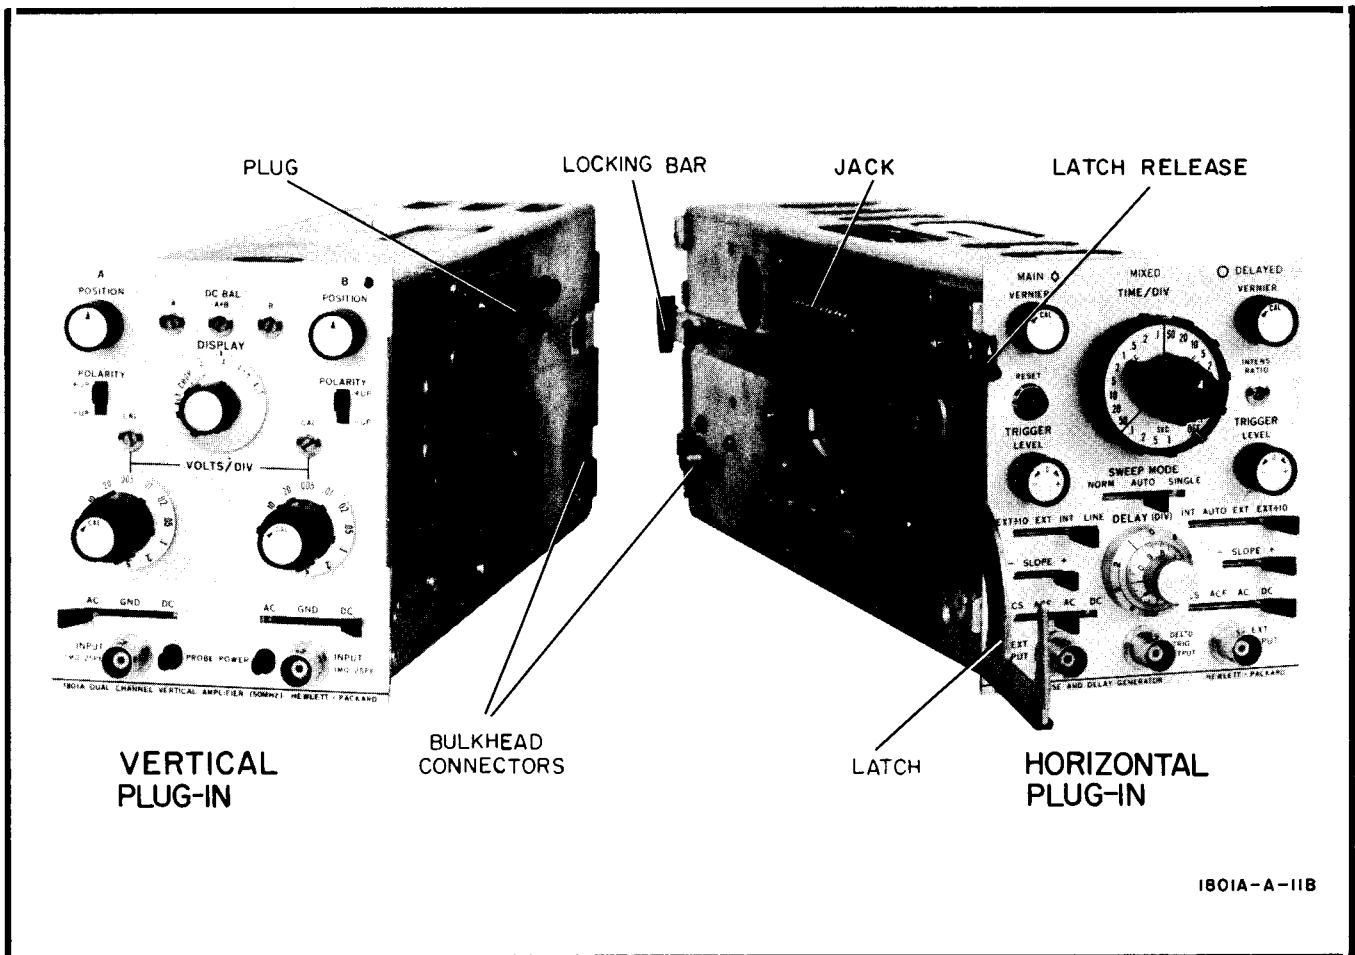

Figure 2-1. Plug-In Mating
- a. Move locking bar to rear (see Figure 2-1).